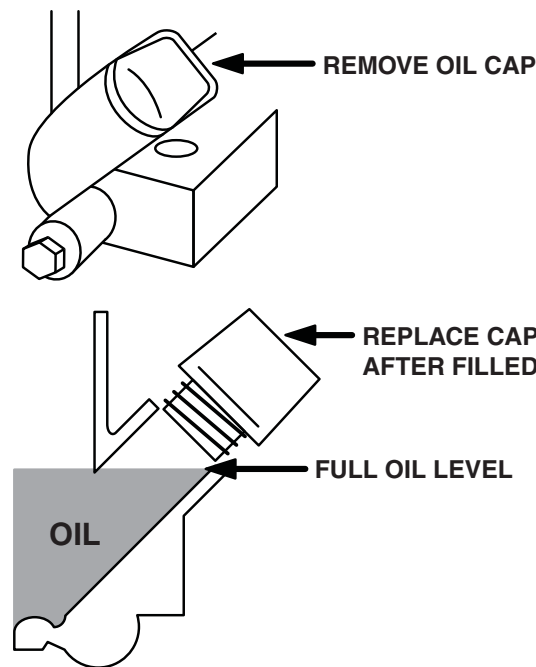

Figure 4
1. Place the machine on a level surface and initially add 16 oz. (1/2 quart) of SAE 30 High Detergent oil, recommended by the Engine Manufacturer, and wait one minute for the oil to settle (**Figure 4**).
2. Check the Engine Oil level every time you use the machine (**Figure 4** on page 9).